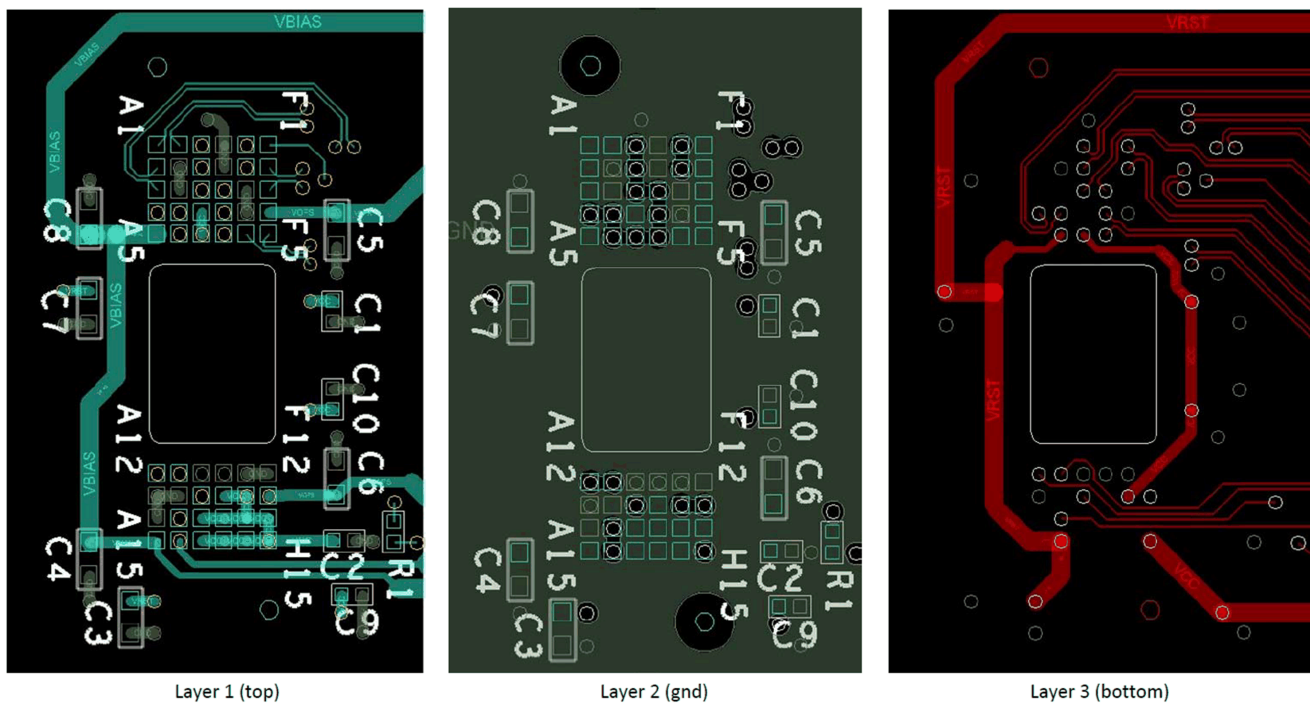

Figure 8-1. Power Supply Connections
- Minimize vias, layer changes, and turns for the HS bus signals. Refer to Figure 8-1.
- Minimum of two 100nF (25V) capacitors—one close to V_{BIAS} pin. Capacitors C4 and C8 in Figure 8-1.
- Minimum of two 100nF (25V) capacitors—one close to each V_{RST} pin. Capacitors C3 and C7 in Figure 8-1.
- Minimum of two 220nF (25V) capacitors—one close to each V_{OFS} pin. Capacitors C5 and C6 in Figure 8-1.
- Minimum of four 100nF (6.3V) capacitors—two close to each side of the DMD. Capacitors C1, C2, C9 and C10 in Figure 8-1.